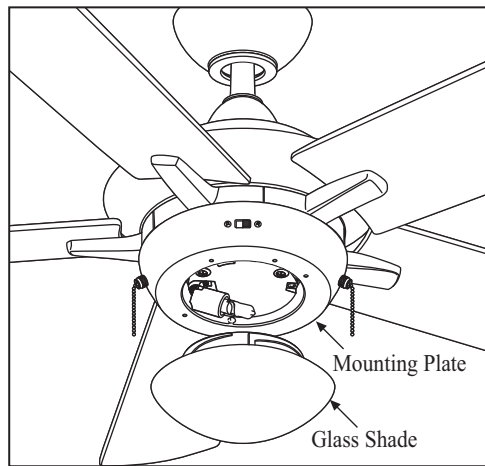

Figure 17
6. Raise the glass shade up against the mounting plate and secure the glass shade to the fan by turning the glass shade counterclockwise until snug. DO NOT OVERTIGHTEN. (Fig. 17)